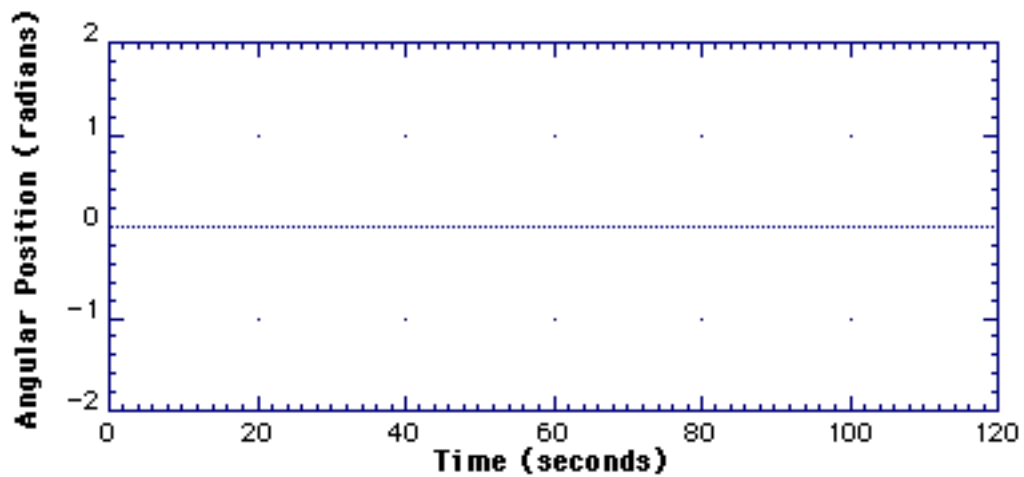

Figure 2. Torqued graph for Activity 1
- Pull down the **File** menu and select **Open**. Open the file **Torqued** in the **Lab 7** folder. A graph like that shown in Figure 2 should appear.